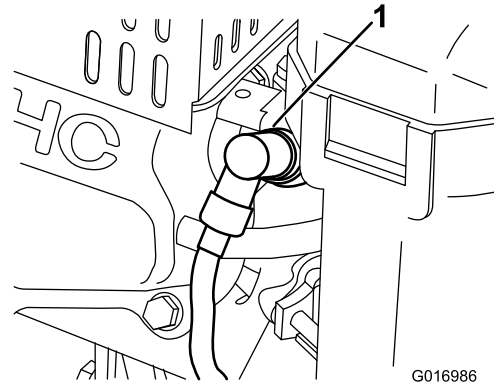

Figure 33
1. Pull the molded wire off the spark plug (Figure 33).